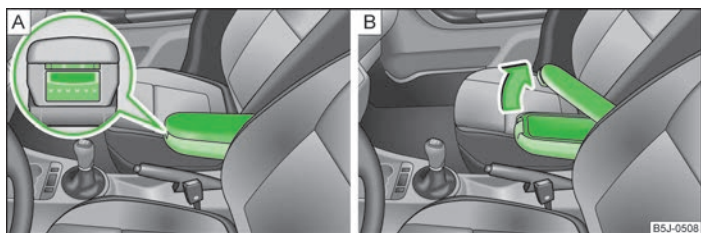

Fig. 68 Armrest: Storage compartment/open storage compartment
- Press the bottom button on the face end of the armrest » Fig. 68 - A.
- Press the top button and fold the cover of the storage compartment upwards » Fig. 68 - B.